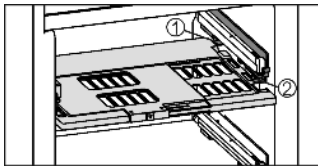

Fig. 17
- ▶ To insert the humidity control plate: Insert the cover mouldings of the plate into the rear holder Fig. 17 (1) from underneath and engage them in the holder Fig. 17 (2) at the front.